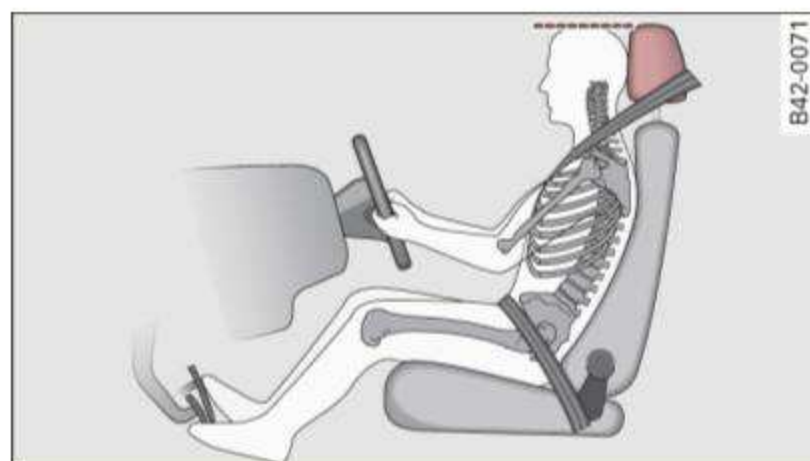

Fig. 86 Correct head restraint position for driver
- Adjust the head restraint so that the upper edge is as even with the top of your head as possible but no lower than eye level and so that it is as close to the back of your head as possible ⇒ fig. 86.